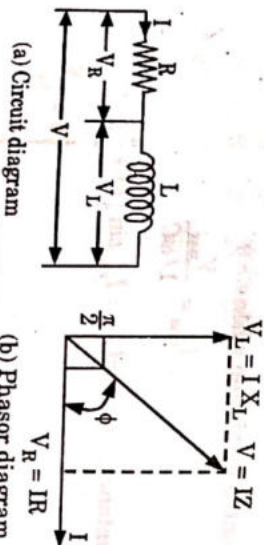

Fig. 2.13.1
1. Consider an AC circuit consisting of resistance of R ohms and inductance of L henrys connected in series, as shown in Fig. 2.13.1(a).
4. From phasor diagram shown in Fig. 2.13.1(b) the current lags behind the applied voltage V by angle ϕ , which is given by